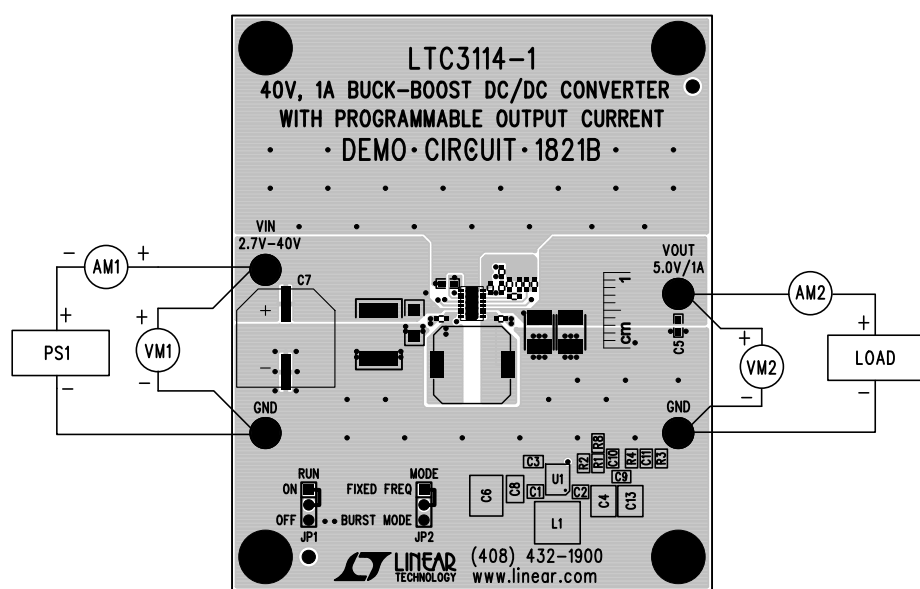

Figure 4. Proper Measurement Equipment Setup
Using short twisted pair leads for any power connections and with all loads and power supplies off, refer to Figure 4 for the proper measurement and equipment setup. The battery/power supply (PS1) should not be connected to the circuit until told to do so in the procedure below.
2. With power OFF connect the power supply (PS1) as shown in Figure 4. If accurate current measurements are desired (for efficiency calculations for example) connect an ammeter in series with the supply as shown. The ammeter is not required however.
3. Connect a 500mA load to V_{OUT} as shown in Figure 4 (10Ω for $V_{OUT} = 5V$). Connect an ammeter if accurate current measurement or monitoring is desired.